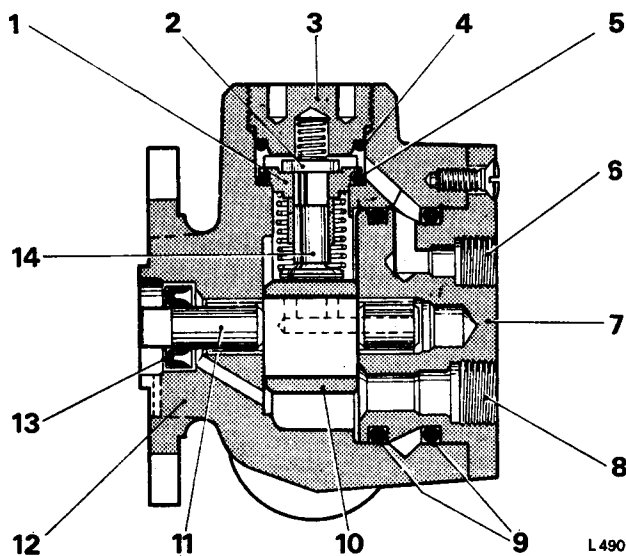

FIG. S72 SECTIONAL VIEW OF THE PUMP
The pump comprises three radial plungers, each being spring-loaded and reciprocating in its own liner. The plungers are operated by a central camshaft through a concentric bearing ring (see Fig. S72).
When removing a pump plunger, always retain each plunger with its respective liner (see Fig. S72). Never fit a new plunger in an old liner or vice versa. When necessary renew them as a set together with a new disc valve.
The drive shaft should rotate freely when the drive end is turned with the aid of pliers, if the pump shaft will not rotate freely (with the aid of pliers), dismantle the pump and examine the journal bearing bushes; renew the pump body or end housing, if the bushes are damaged or severely worn. Also, examine the cam ring (*see Fig. S72, item 10*) and renew if scored or worn.